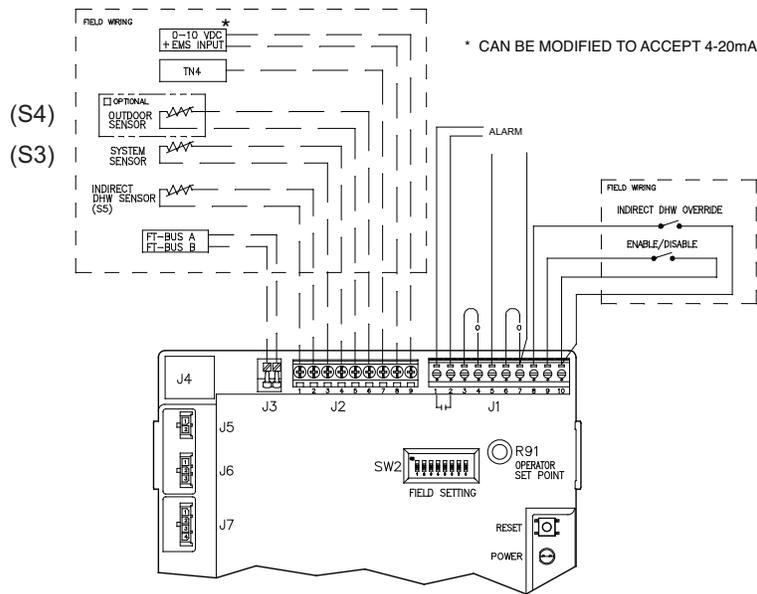
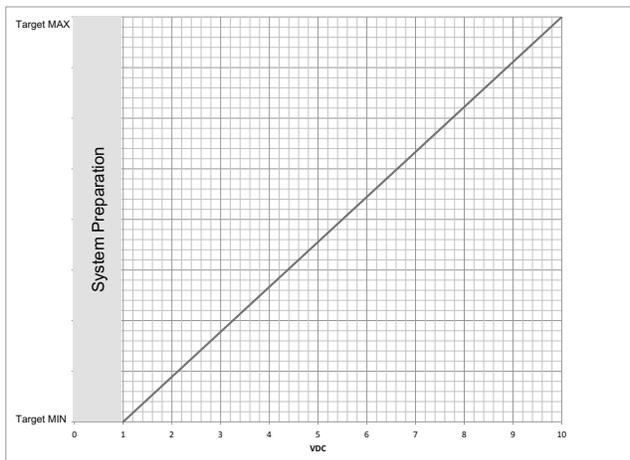

Fig. 37: VERSA PIM Control Connections (XFyre and XPak FT)
Fig. 42: VERSA 0-10 VDC Chart
Connect the Enable/Disable terminals to the PIM (shown in Fig. 37) or to the low-voltage field wiring terminals (model dependent). Alternately, any dry contact closure (including a remote thermostat) across these terminals will enable the unit to run. Caution should be used to ensure neither of the terminals becomes connected to ground.
2. If using an Outdoor Sensor, connect the sensor wires to the terminals marked OUTDOOR SENSOR (PIM J2 connector terminals 5 and 6); refer to Fig. 37 on page 53. Caution should be used to ensure neither of these terminals becomes connected to ground.
2. To enable this remote control function, set DIP switch #5 on the PIM to the UP position. DIP switch #5 toggles between an EMS ON (UP) signal or a demand signal from the VERSA Control OFF (DOWN). Using DIP switch #2 on the PIM, select between Direct Drive (UP) or Target Temperature (DOWN) setpoint /Firing rate.
3. For use of a 4-20mA signal, DIP switch #6 must be in the ON (UP) position and a 500 OHM 1/2 watt resistor wired in parallel across the input wires.
4. Connect an Energy Management system or other auxiliary control signal to the terminals marked 0-10V (+/-) on the PIM (see Fig. 37). Caution should be used to ensure that the +0-10V connection does not create a short to ground. See Fig. 42 and Tables N-1 and N-2.